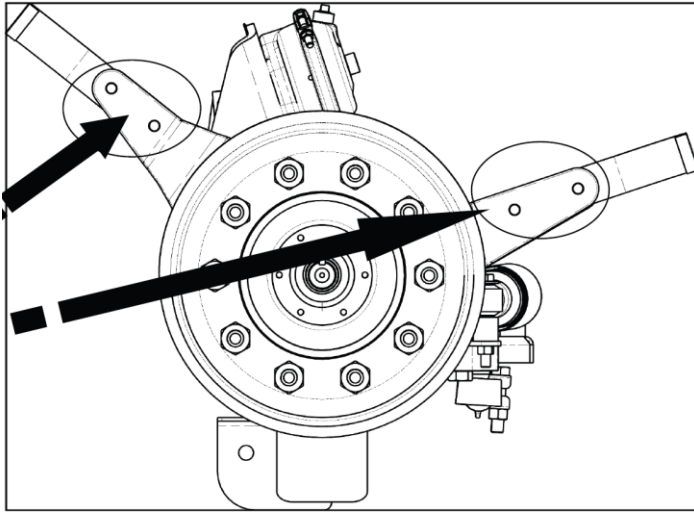

Figure 3 – Outside View of Bracket Assembly
13. Clamp the aluminum arms (PN 101043) in place. As a starting point, rest the face of aluminum arm against the fender, and align the top edge of the of the aluminum arm with the top edge of the brackets installed in previous steps. See Figure 3.
16. As shown in Figure 3 use the holes in the steel brackets as a template to mark the mounting hole locations for the aluminum arms